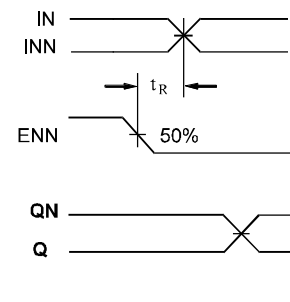

Figure 3. Release Time
- The release time is the minimum time that ENN must be deasserted prior to the next IN/INN transition to ensure an output response that meets the specified IN to Q propagation delay and output transition times (see Figure 3).